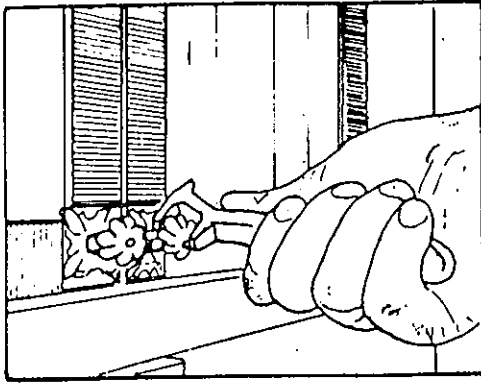

Fig. 6
Your LeMarquis wood stove has double pyrex doors. Opening these doors provide access to the firebox for loading wood and cleaning. Figure 6 illustrates how you use your stove key to open these doors.
1. Using the stove key, open the front pyrex loading doors (refer to pg. 7, Fig. 6).
4. Referring to page 7, figures 6 and 7, follow the procedure for removing the ashpan for ash disposal.